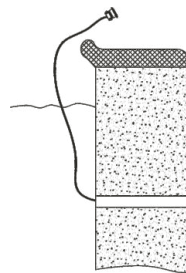

Figure 3
- 5) When installing underwater lights, be parpare long enough cable (Min 1m) to ensure that maintenance and replacement lamp can be out of the water. (Figure 3)